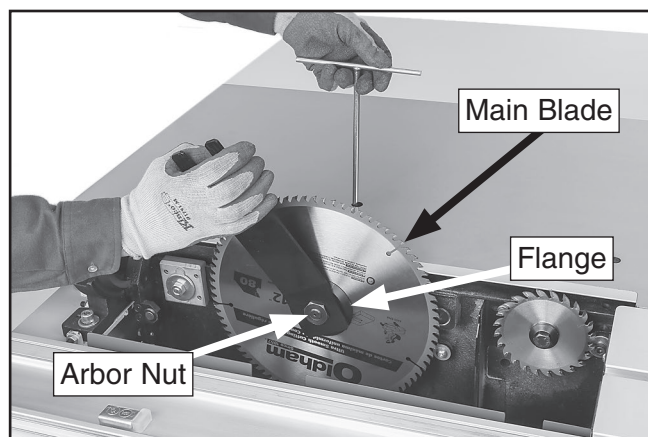

Figure 34. Main blade installed on arbor.
26. While still holding T-handle wrench, thread arbor nut on counterclockwise and fully tighten to secure blade (see **Figure 34**).